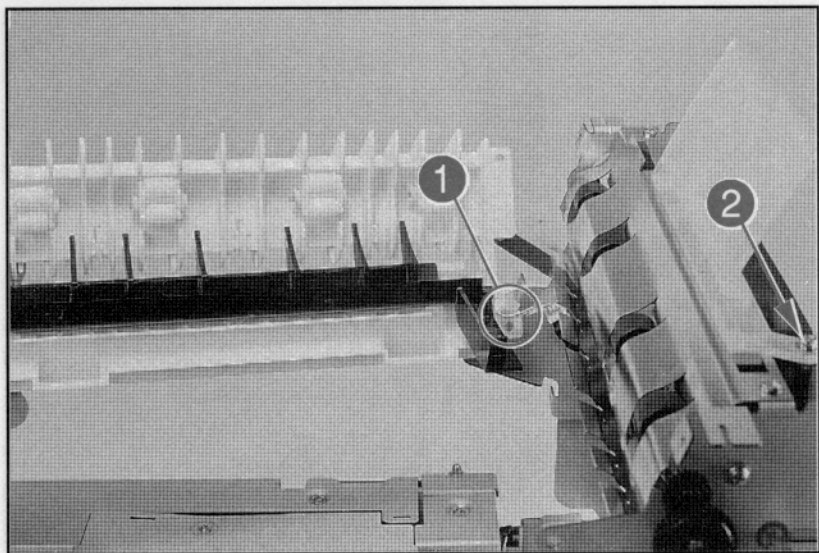

Figure A-12 Wire Routing and Upper Switchback Guide Screw
Note: When re-assembling, verify proper wire routing as shown in Figure A-12, callout 1.
- 3 Remove the (1) screw shown previously in Figure A-12, callout 2. Remove the upper switchback paper guide by releasing its latch with a flat screwdriver and pushing to the side.